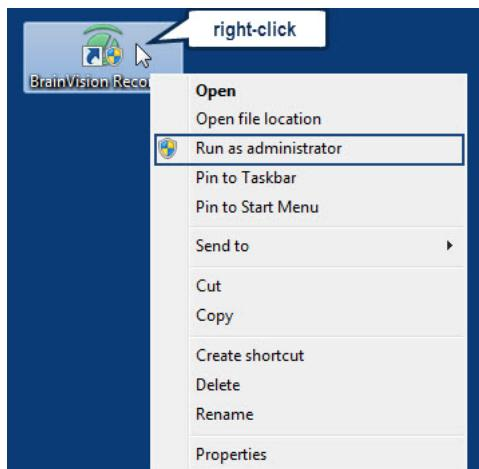

Figure 3-1. Starting Recorder in administrator mode (Windows® 7)
- ▶ You can start *Recorder* by right-clicking on the desktop short-cut  and choosing **Run as administrator** from the context menu (see Figure 3-1). (When you run *Recorder* as an administrator, the system prompts you to confirm that you wish to do so. Respond to the prompt by clicking **Yes**.)